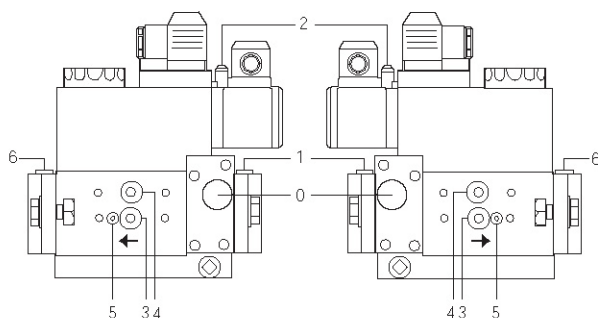
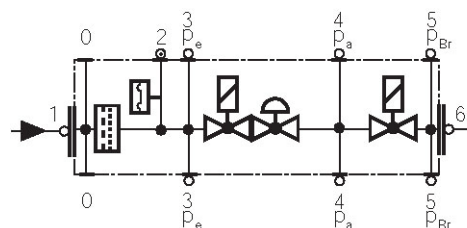

Fig. 10
Fig. 11
ATTENTION: To set the outlet pressure of the VD-R regulator, act on the adjustment ring nut (Fig. 10). The position of the indicator in the dial indicates the value of the outlet pressure calculated as a percentage of the full scale of the PS sensor (Fig. 11).
- Change the filter if the pressure difference between pressure connection 1 and 3 (Fig. 10-Fig. 11) is $\Delta p > 10$ mbar.
- Change the filter if the pressure difference between pressure connection 1 and 3 (Fig. 10-Fig. 11) is twice as high compared to the last check.